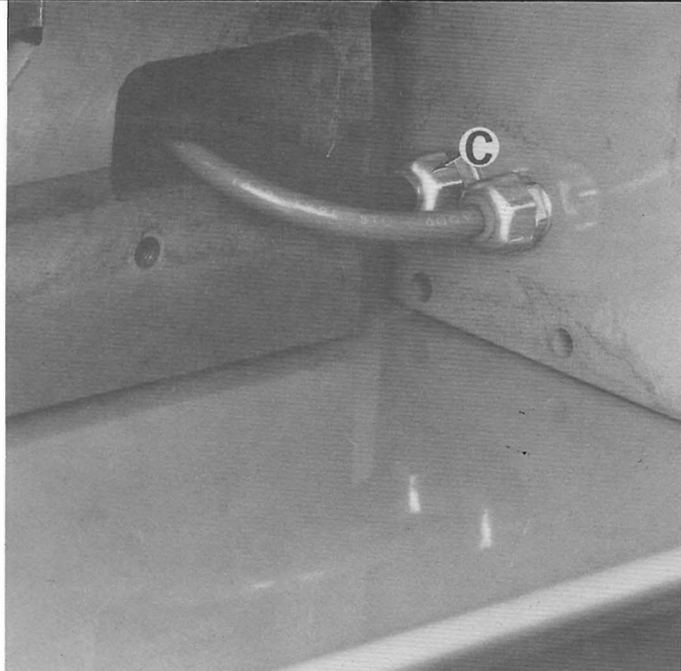

Figure 90 — Control Panel Removal
4. Pull control box away from end of bed and remove nut "C", Figure 90, from cable grip.